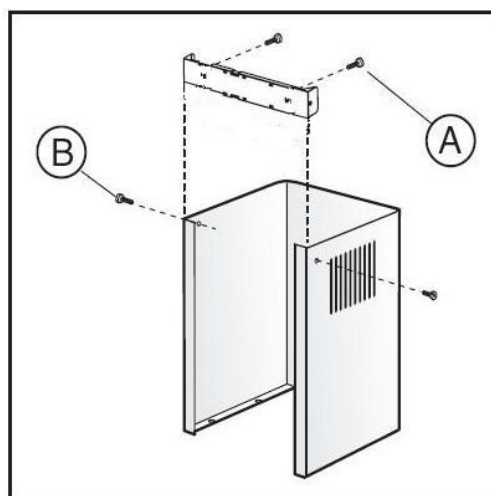

Fig.11
9. Fix the screws from the sides of the upper flue to ensure the flue pieces are securely held by the flue bracket. Ensure screws A & B are fully tightened, see **Fig.11**.